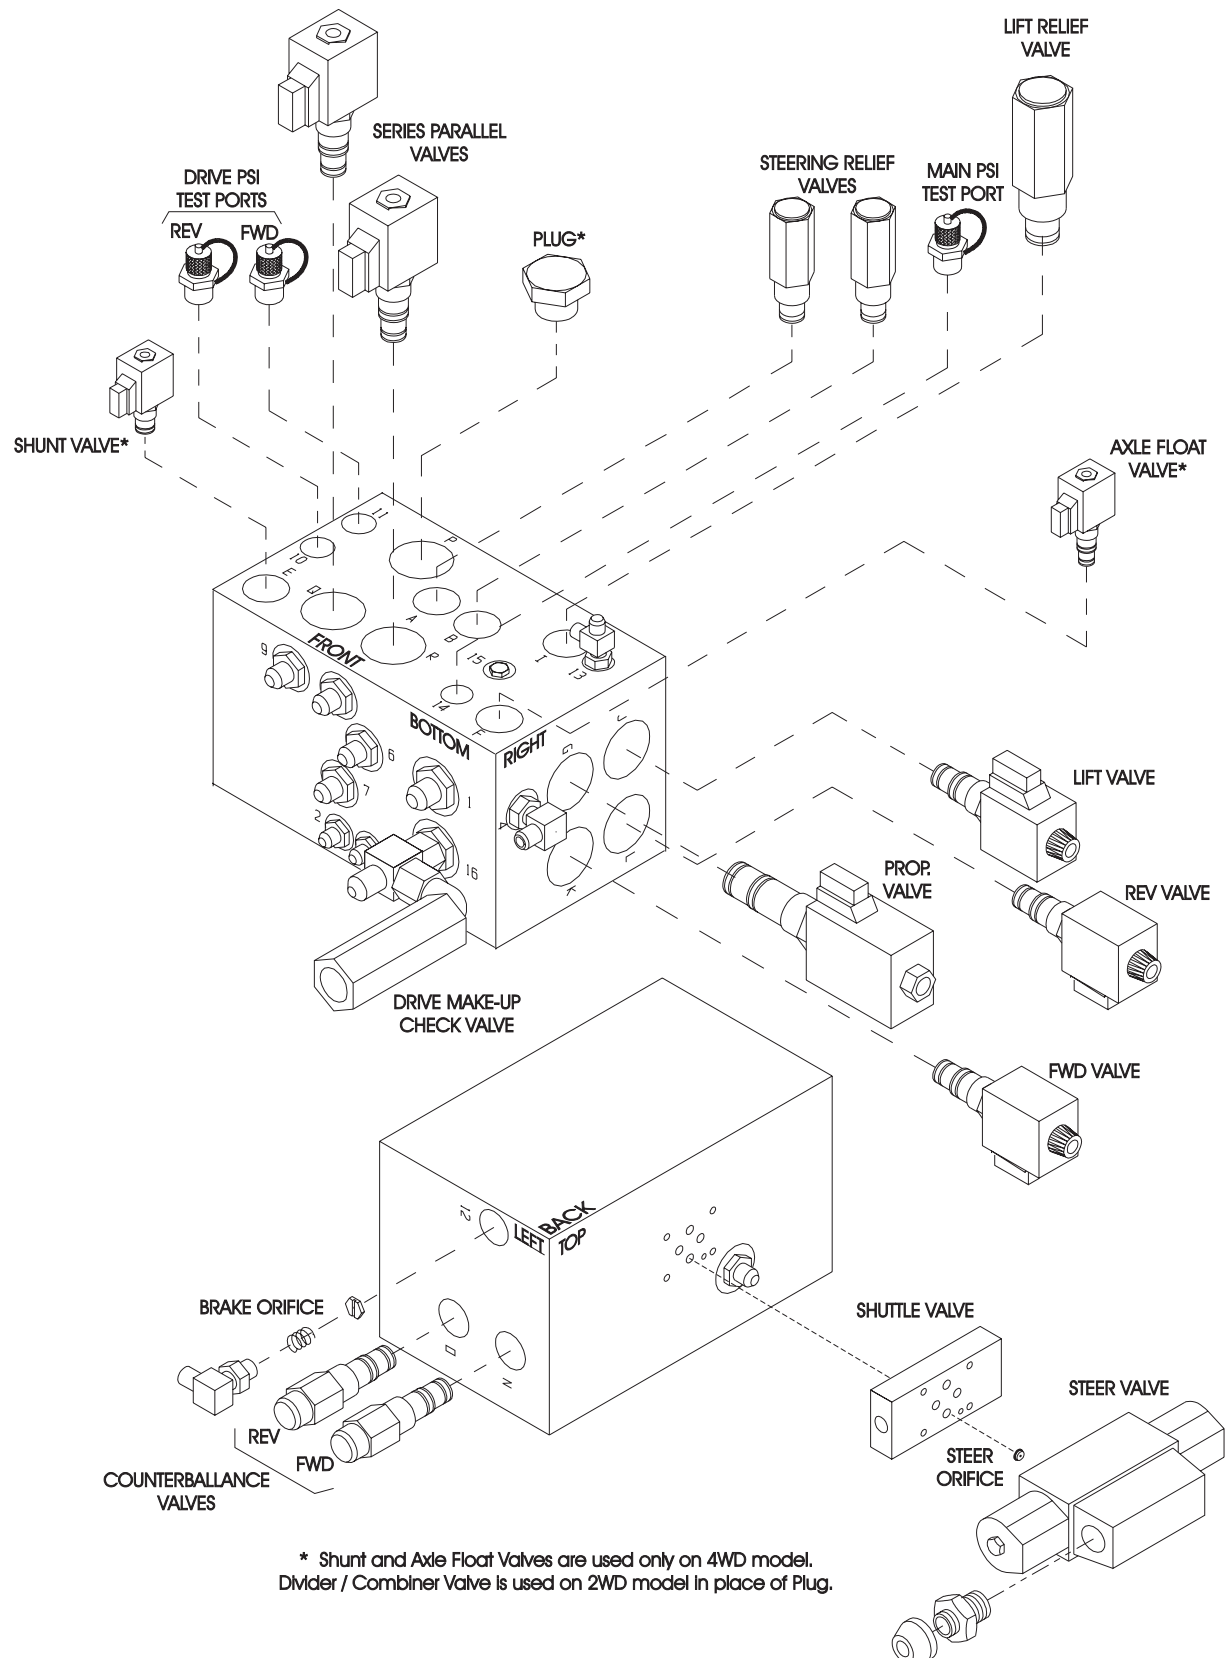

Figure 4-12: Hydraulic Manifold, Exploded View (4WD Shown)
4.7 Hydraulic Manifold (Figure 4-12)
NOTE: Mark all components as they are removed so as not to confuse their location during assembly. Refer to Figure 4-12 often to aid in disassembly and assembly.